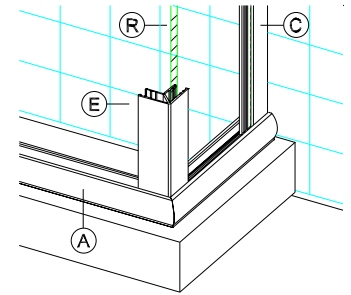

figure 4b
Slide 90 degree Corner Post (E) over the exposed edge of Glass Panel and set it into the Sill cavity as shown in figure 4b.